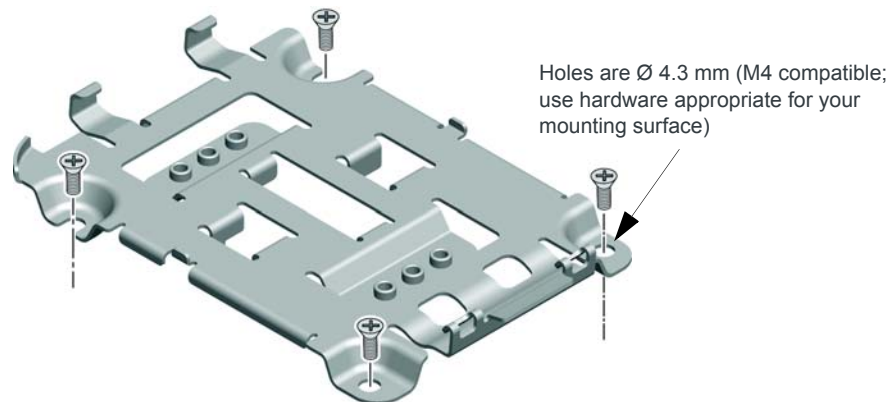

Figure 2-4: Mounting Bracket, showing attachment points
1. Attach the bracket to the mounting surface, using the attachment points shown in Figure 2-4.